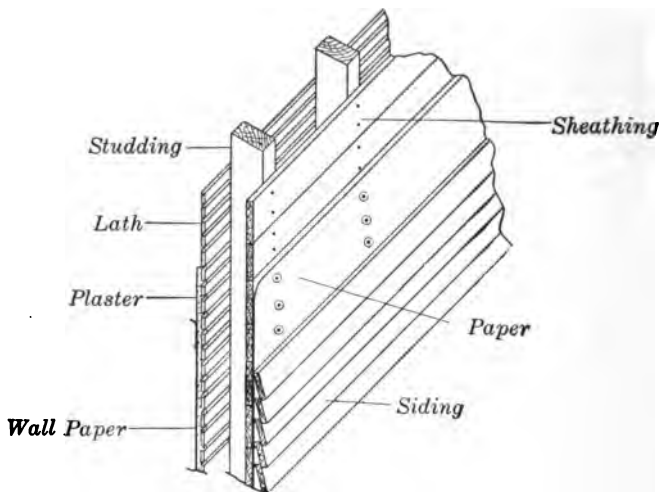

FIGURE 30.—CROSS SECTION OF THE WALL OF A HOUSE.
54. Walls of Houses. — Walls of houses are so constructed that they do not allow the heat to pass through them readily. Either brick, stone or lumber is used. The lumber-made house is constructed as shown in Figure 30.